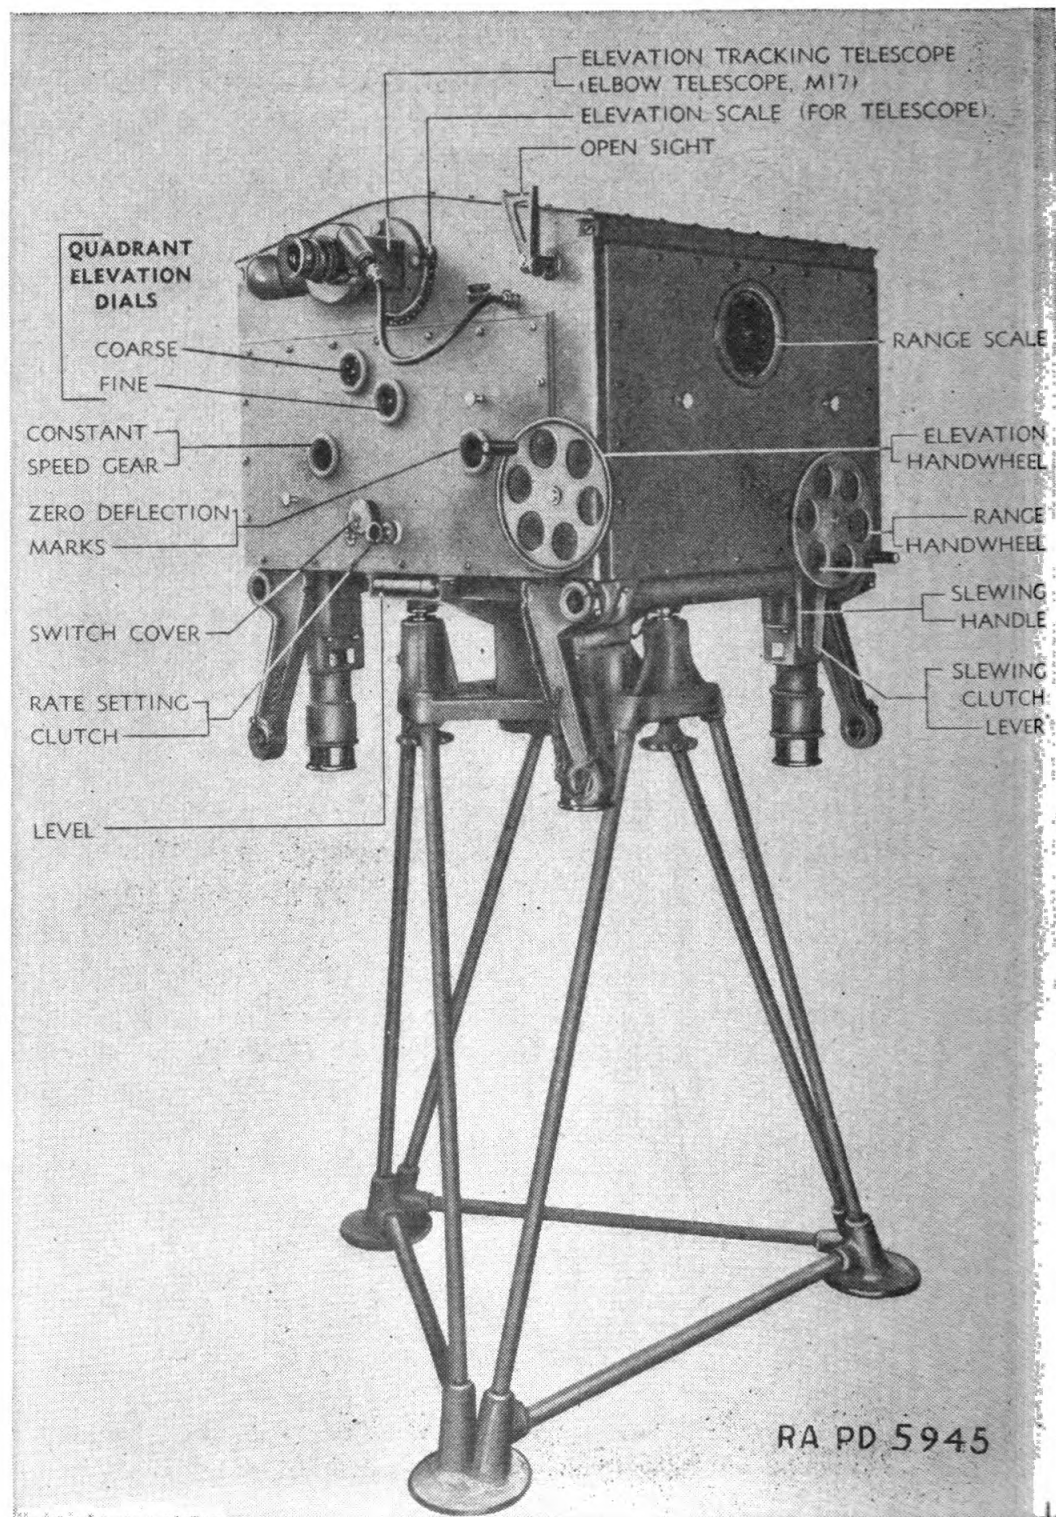

FIGURE 93.—Antiaircraft director M5—rear and left side.
(2) Operating controls which consist of a rate setting clutch, a switch, and a handwheel, are arranged on the right and left sides for the azimuth tracker and elevation tracker, respectively. A handwheel which is on the backplate is for the range setter. The front panel has no controls. A slewing clutch for rapid traverse of the director, and an orienting clutch for use in orienting the director with respect to the gun, are contained in the base of the director.
(3) The elbow telescope M17 is an 8-power, erect image telescope, having a field of view of 6°. It is provided with a diopter scale and adjustment for focusing, and four filters for use under different light conditions. The telescope is mounted to the flange on the telescope shaft by three thumbscrews.
(4) The open sight (fig. 93) is connected to the elevation tracking telescope by a linkage within the director, so as to follow the telescope motion and indicate the telescope field of view. Telescope elevation in degrees is shown by a scale near the elevation tracking telescope.
(5) The rate setting clutch near the tracking handwheel selects either aided tracking (clutch knob pushed in) or direct tracking (clutch knob pulled out).